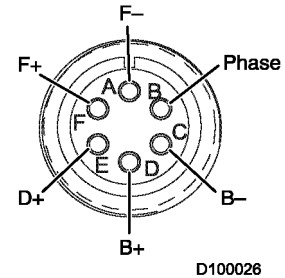

FIGURE 10-11. PIN CONNECTION IDENTIFICATION
2. Connect one meter lead to pin A (F-, Figure 10-11) connector socket in the regulator, and connect the other lead to pin C (B-) connector socket in the regulator. Observe the meter reading.